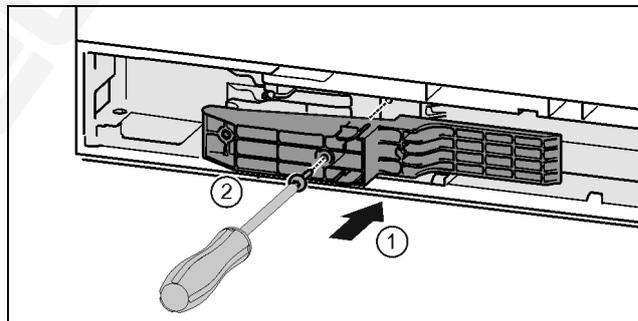

Fig. 43 \*
- ▶ Install the adapter on the handle side of the slot. Fig. 43 (1)\*
- ▶ Tighten the screws with the T15 screwdriver. Fig. 43 (2)\*